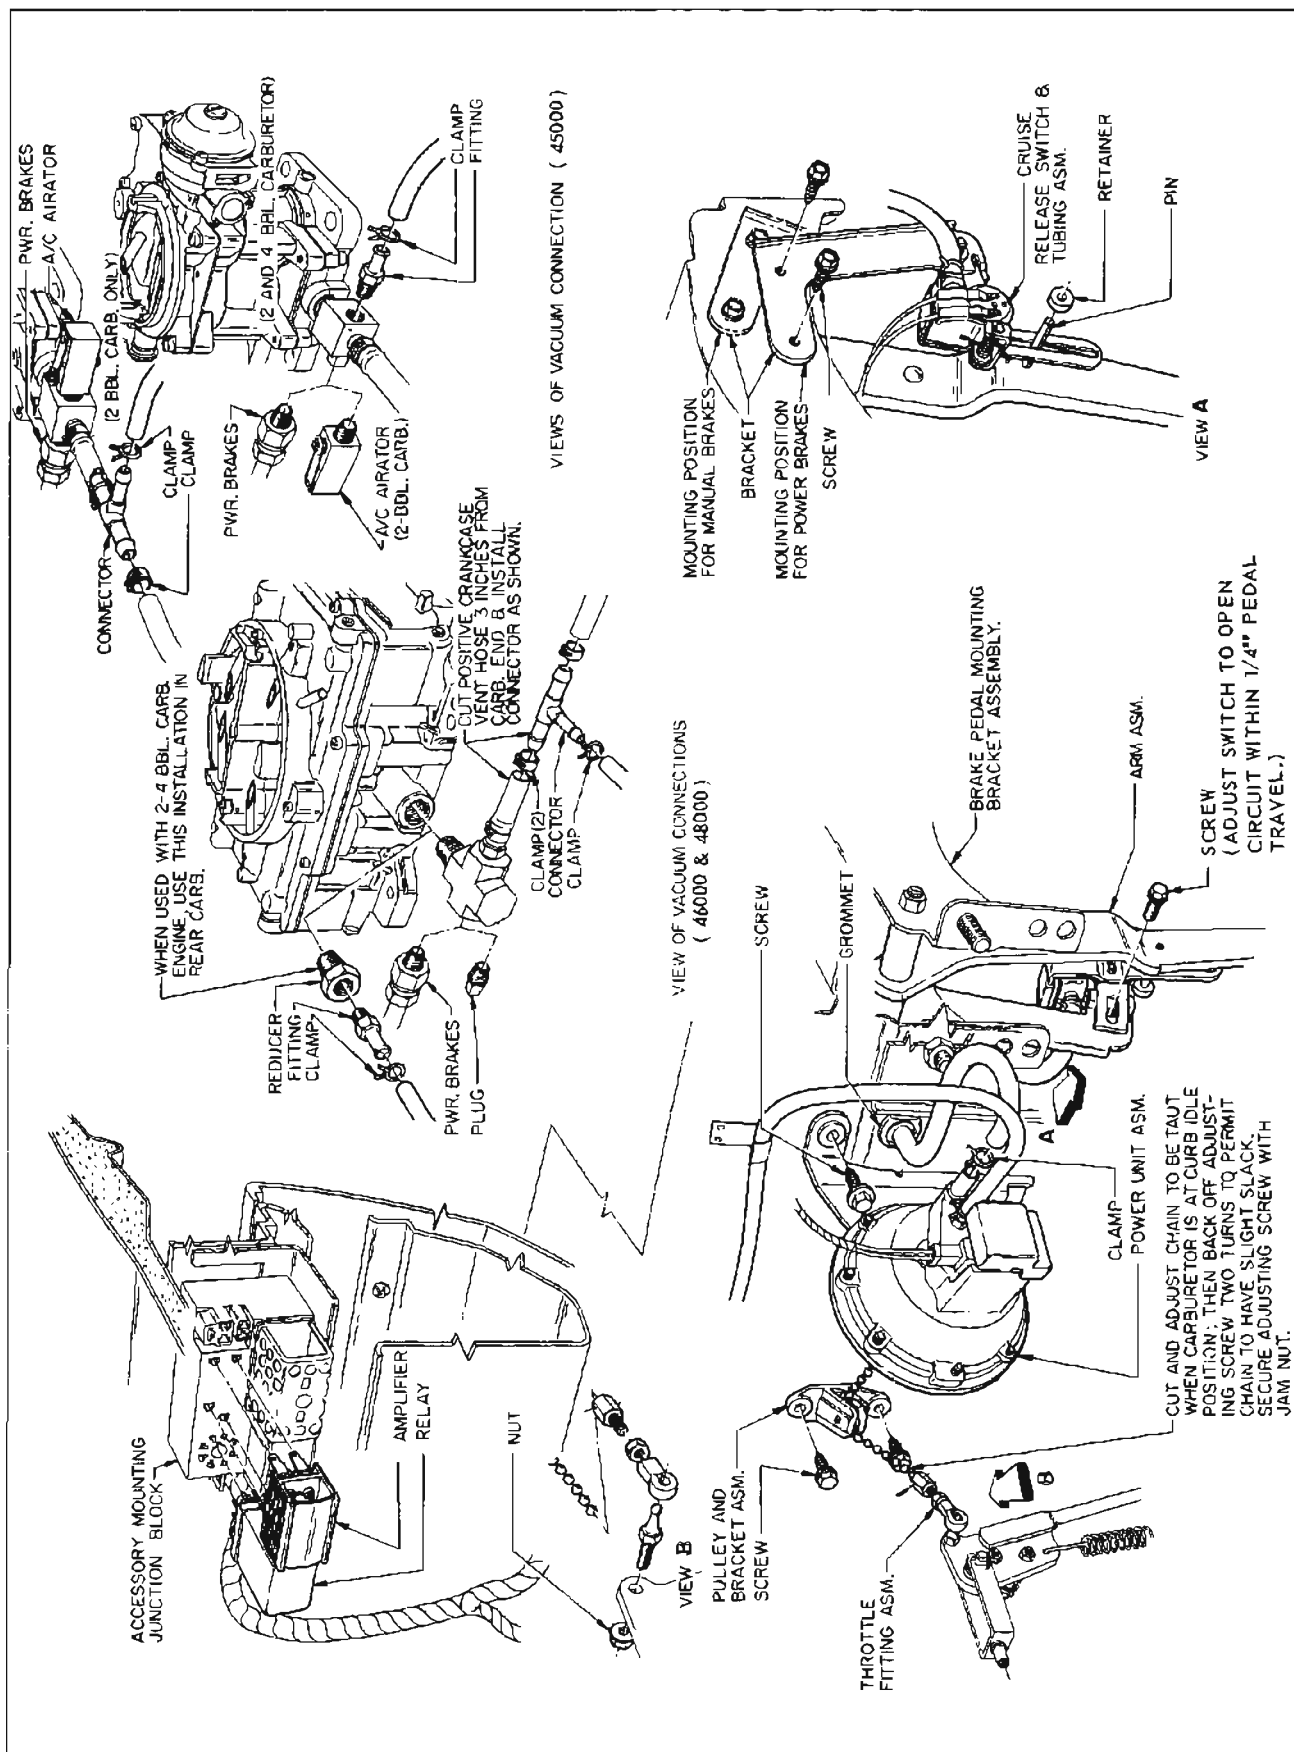

Figure 11-177—Electro-Cruise Installation - 45000, 46000 and 48000 Series
ping it free from clevis pin. See figures 11-177 and 11-178.
1. Disconnect the bead adapter chain attached to the clevis pin by snapping it free from clevis pin. See figures 11-177 and 11-178.
IMPORTANT: Check all vacuum hoses for proper attachment at vacuum source, power unit and brake release switch. See figures 11-177 and 11-178.